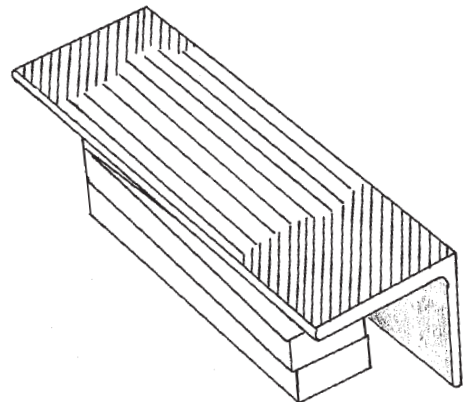

Figure 2: ROUGH CLEAN
2. Clean entire area with flapper wheel or coarse sander. Metal should be free of all rust and pitting. (Figure 2)